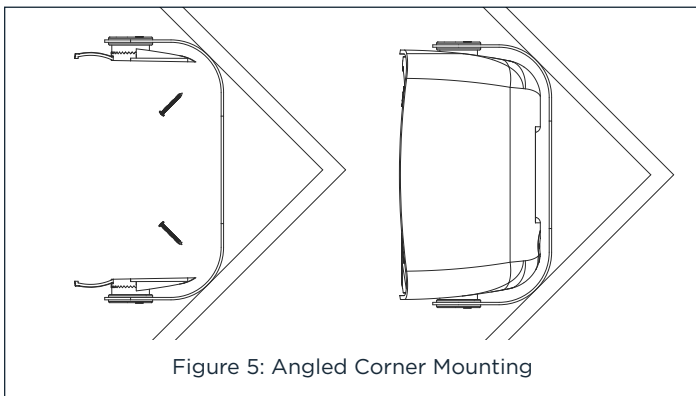

Figure 5: Angled Corner Mounting
2. Attach the FastMount brackets to the mounting surface using hardware (not included) that is appropriate for the type of surface. If the installation requires that the speaker be mounted in a corner, attach the bracket with hardware through the slots in the angled corners (see Figure 5).